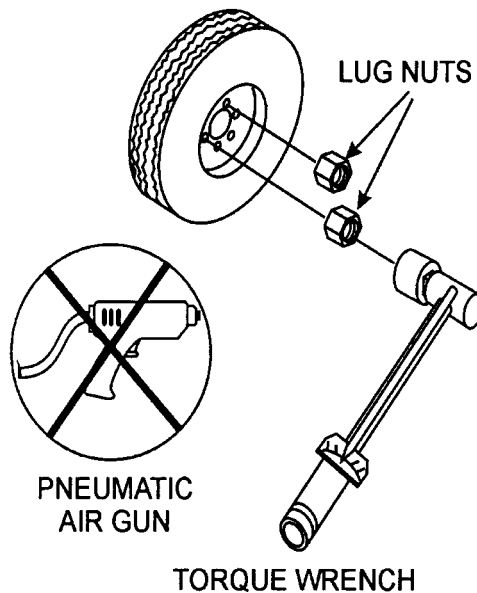

Figure 3. Wheel Lug Nuts Tightening Sequence
2. Torque all lug nuts in sequence. See Figure 3. **DO NOT** torque the wheel lug nuts all the way down. Tighten each lug nut in 3 separate passes as defined by Table 4.